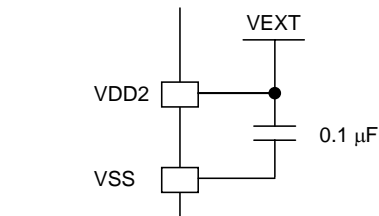

Fig. 2
- When the external supply voltage $V_{EXT} = 1.8\text{ V}$ to 3.6 V , connect V_{DD2} to V_{EXT} directly as shown in Fig. 2.